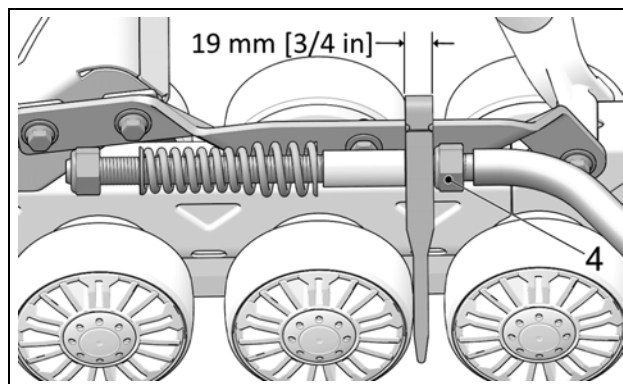

Figure 13
- Set nut (4) to obtain a distance of 19 mm [3/4 in] between nut and stabilizing arm guide as shown on Figure 13.